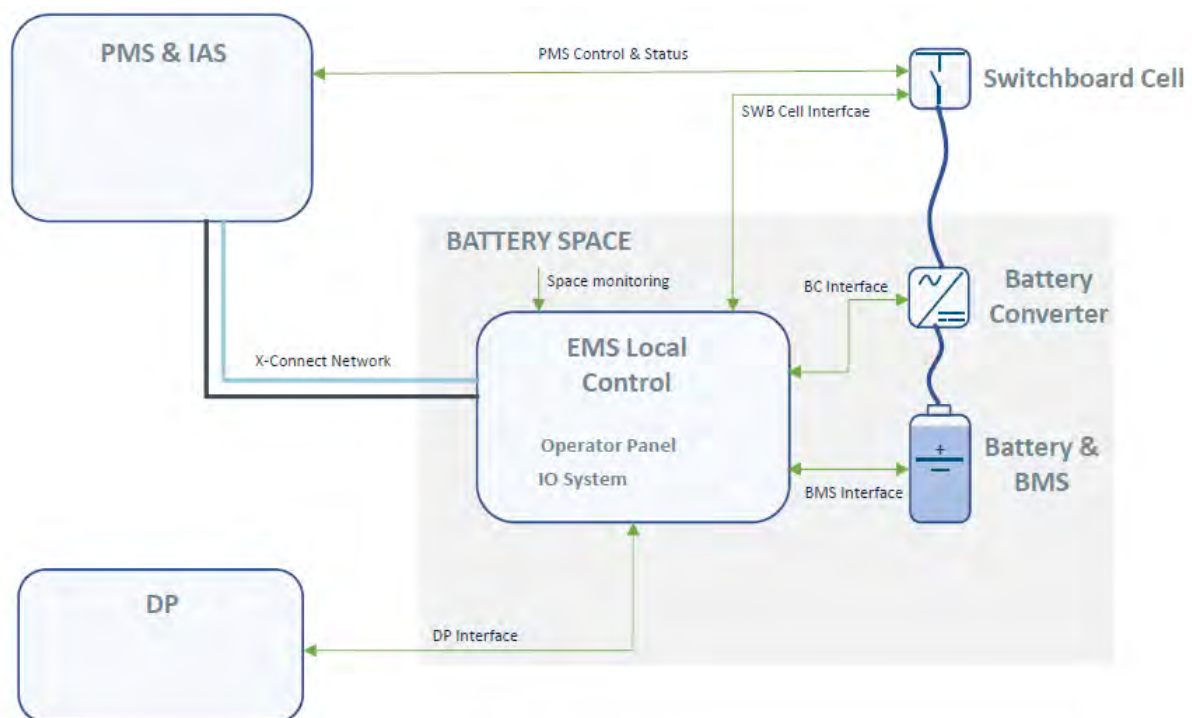

Figure 1: Interface architecture
The EMS system is interfaced to the battery internal control system (BMS), the battery converter (BC) and the circuit breaker, and coordinates, monitors and controls the use of each system/device. Together they form a complete energy storage system (ESS), ref Figure 1. The system is adaptable to different hardware solutions for synchronizing and connecting to the grid.